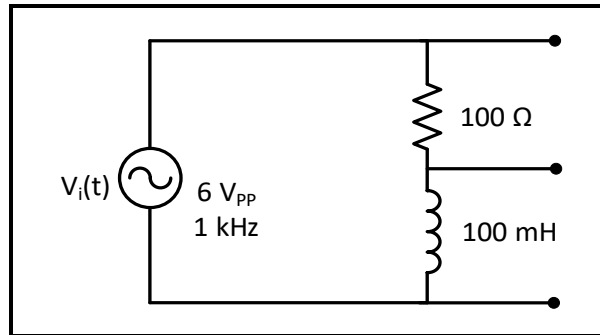

Figure 7.13
1. Connect the circuit of Figure 7.13, set V_{in} to sinusoidal voltage at $6 V_{pp}$, and $f = 1 \text{ kHz}$.